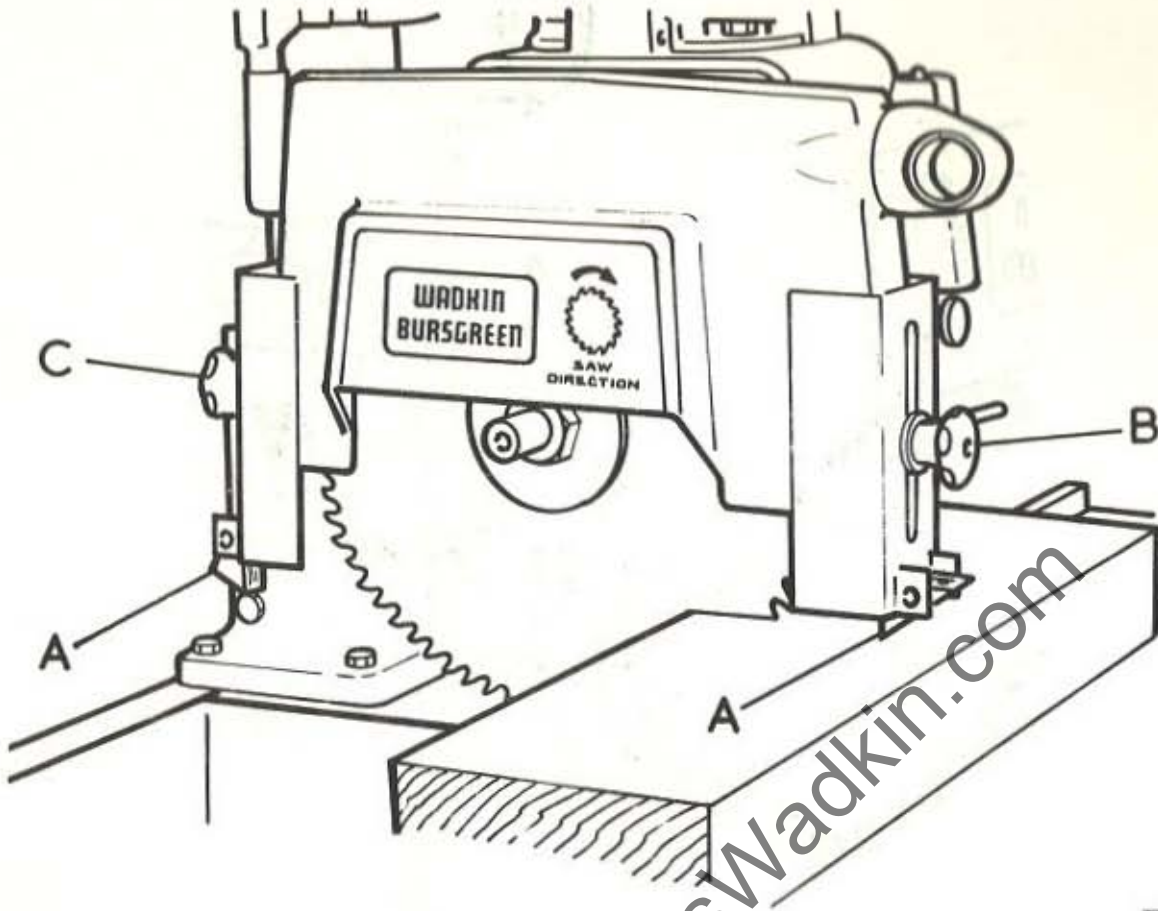

FIG. 13.
The guard gives maximum protection for all operations. The guard is fitted with two anti - kick back devices, both front and rear as shown in Fig. 13 with a retractable riving knife, for crosscutting. The visors are adjustable throughout the full depth of cut of the machine.
The anti - kick back fingers "A" in Fig. 13 are fitted to the front and rear saw visors.
1. Place the timber to be ripped, in kick back fingers as shown in Fig. 13